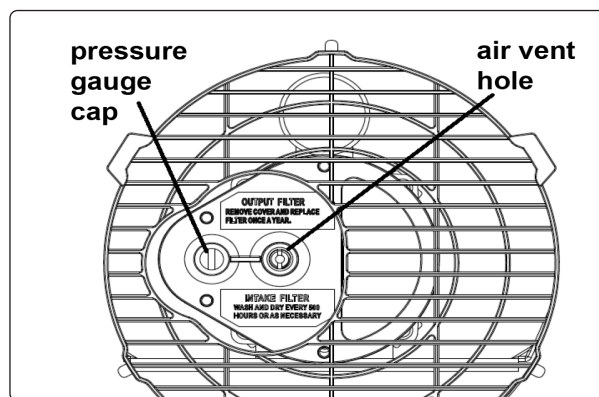

fig.4
- 7.2.1. At low temperature keep the air vent hole fig.4 closed by a finger during ignition to make start-up easier.
8.6.4. Compressor Pressure Adjustment fig.4